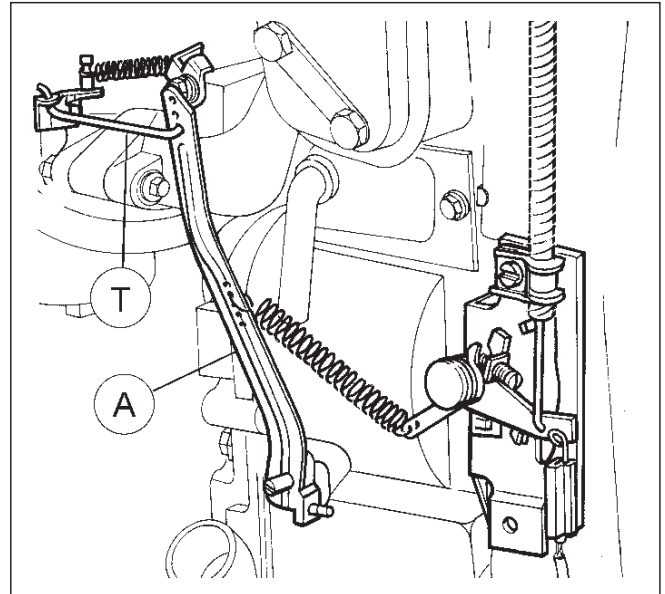
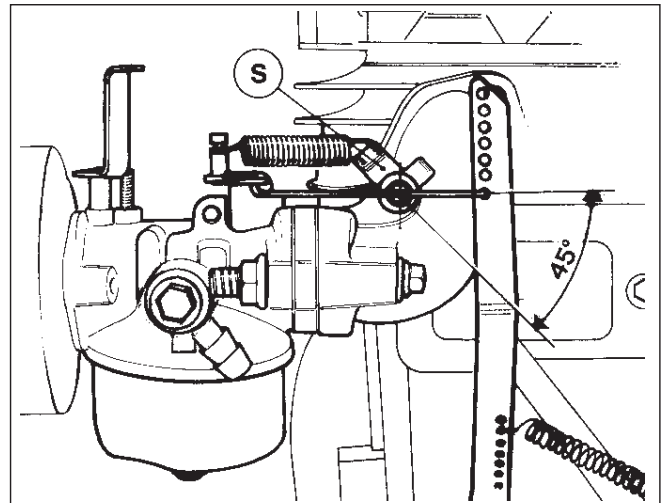
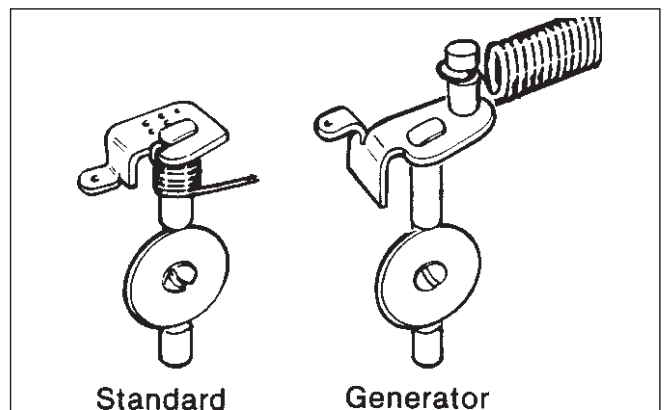

Fig. 12
Fig. 13
Fig. 14
BHG & HBP/G engines are mainly used on generators and therefore usually run with fixed speed at 3.000 rpm. Fig 12 shows external assembly.
- The governor arm **A** has three holes at the top. The throttle control rod (**T**) being fitted to the lower of the three. (Fig 12).
- There are nine alternative holes at the bottom of the arm. The long control spring being fitted to the second hole (3.000 rpm). The opposite end of the spring is hooked to the third hole of the control lever in Fig 12. The shortest spring for carburettor butterfly is hooked to the (**S**) bracket as in Fig 13. The return spring differs also from the normal spring on other horizontal shaft engines. (Fig 14).